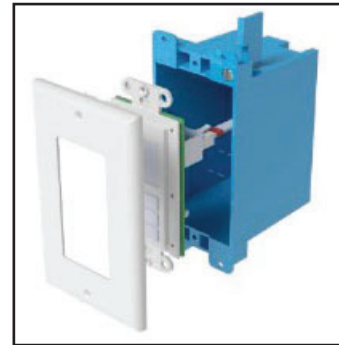

FIGURE 8 - ATTACH WALL CONTROL AND COVER PLATE
5. Attach the wall control (WTT) and cover plate to the plastic retrofit box (refer to FIGURE 8).